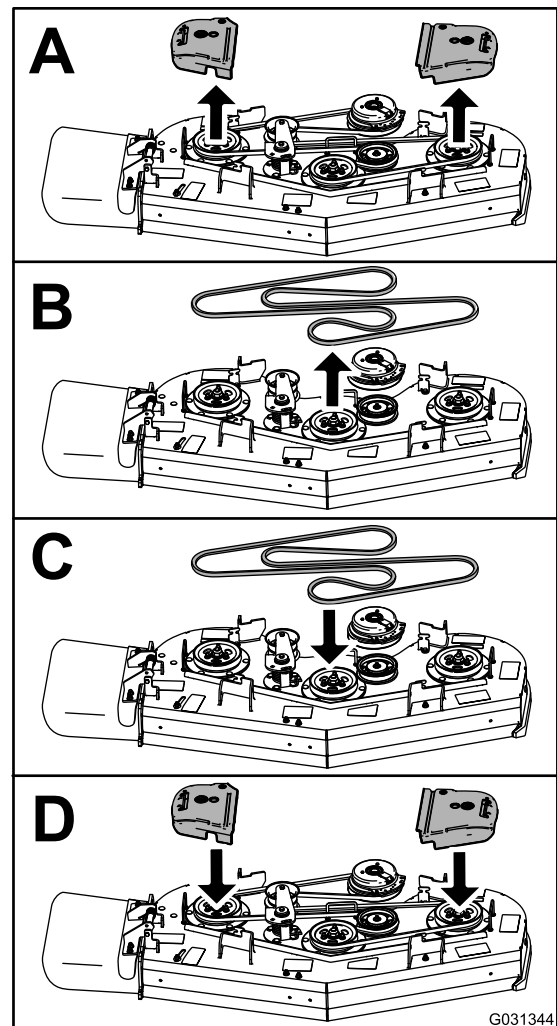

Figure 66
4. Replace the belt as shown in Figure 66.